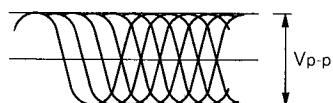

Fig. 21
- (2) Insert the disc and place the unit in the play mode.
- (3) Adjust VR103 so that the voltage becomes $2.5V_{p-p} \pm 0.3V$. (fig. 21)